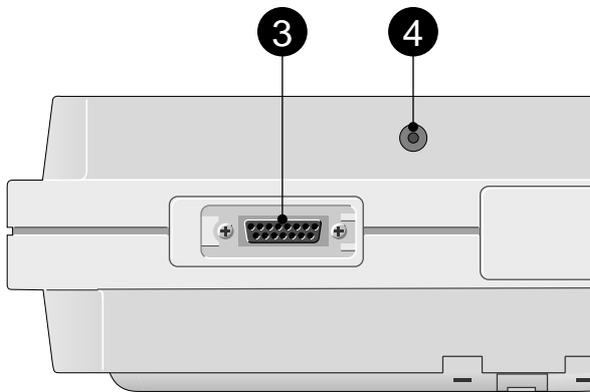

Figure 4-1. 3 ECG signal input
- Connect the patient cable to connector 3 (Figure 4-1).